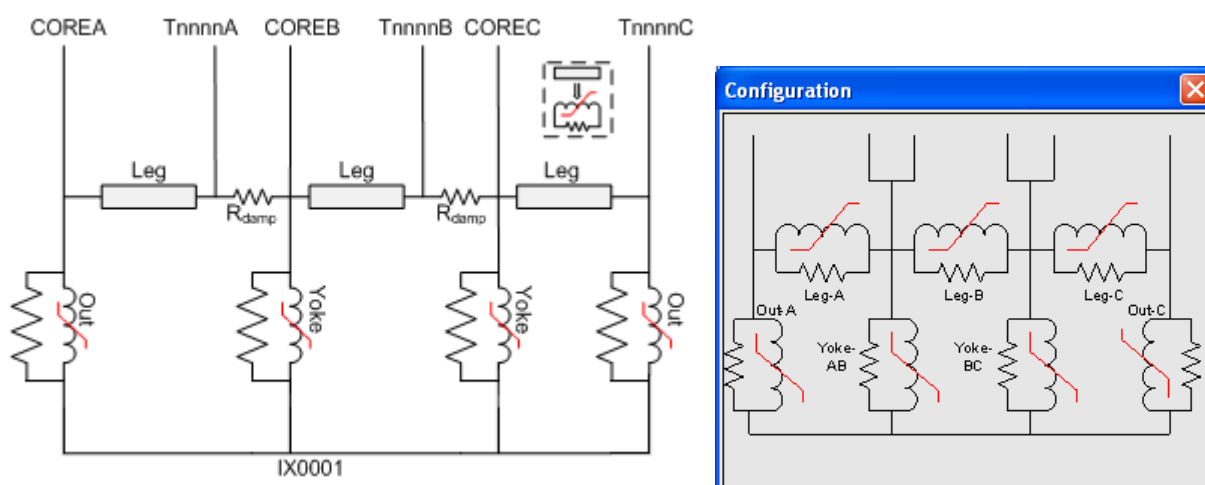

Fig. 7.7 – 5-legged stacked core model. The $\alpha\beta\gamma$ terminals are the n_w+1 winding.
The core model is connected to the “core winding” terminals of the A-matrix. Triplex (single phase cores), stacked cores with three and five legs, and shell form cores are supported. Basically the inductive and resistive core parts are treated independently, but this is a point that requires more research particularly for 3- and 5-legged cores where harmonics in the flux creates additional losses. The core losses are represented by a linear resistor and the nonlinear inductances are modeled by the Frolich equation (10). Each part of the core is modeled with its own core loss resistance and nonlinear inductance using information about their relative cross section and length to scale the values. Fig. 7.7 shows the core model for a 5-legged transformer.
The core loss is split in parts associated with individual core sections. It is assumed that the core loss is proportional to the core volume and to the square of the rms voltage across each section of the electric dual. The voltage, U_o , in the neutral point in Fig. 7.7 (node IX0001) is the time derivative of the neutral flux found during the Frolich optimization described above. It is assumed that the inductive current components determine the voltage distribution. For a 5-legged core
This results in a sequence of excitation points (U_{rms} and I_{rms}). The magnetic circuit in Fig. 7.7 assuming sinusoidal fluxes is solved and the rms values of the line currents are calculated and compared to measured ones. Optimized values of a' , b' and c' (optional) in (12) are found by a Gradient Method implemented in ATPDraw. If a single point is specified the core model is linear.